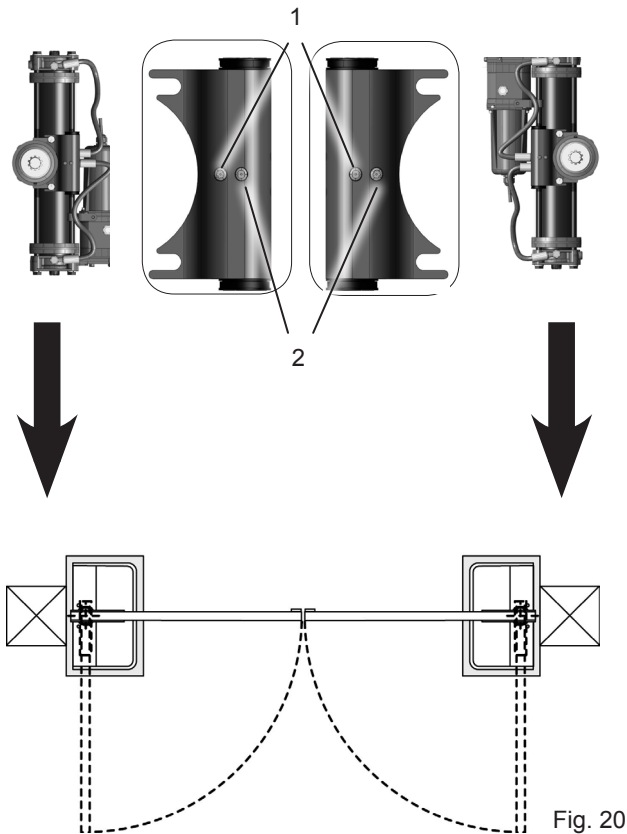

Fig. 20
- 2) During the leaf movement, loosen the opening bleed screw (Fig.20 ref.1 )
- 6) During the leaf movement, loosen the closing bleed screw (Fig.20 ref. 2)